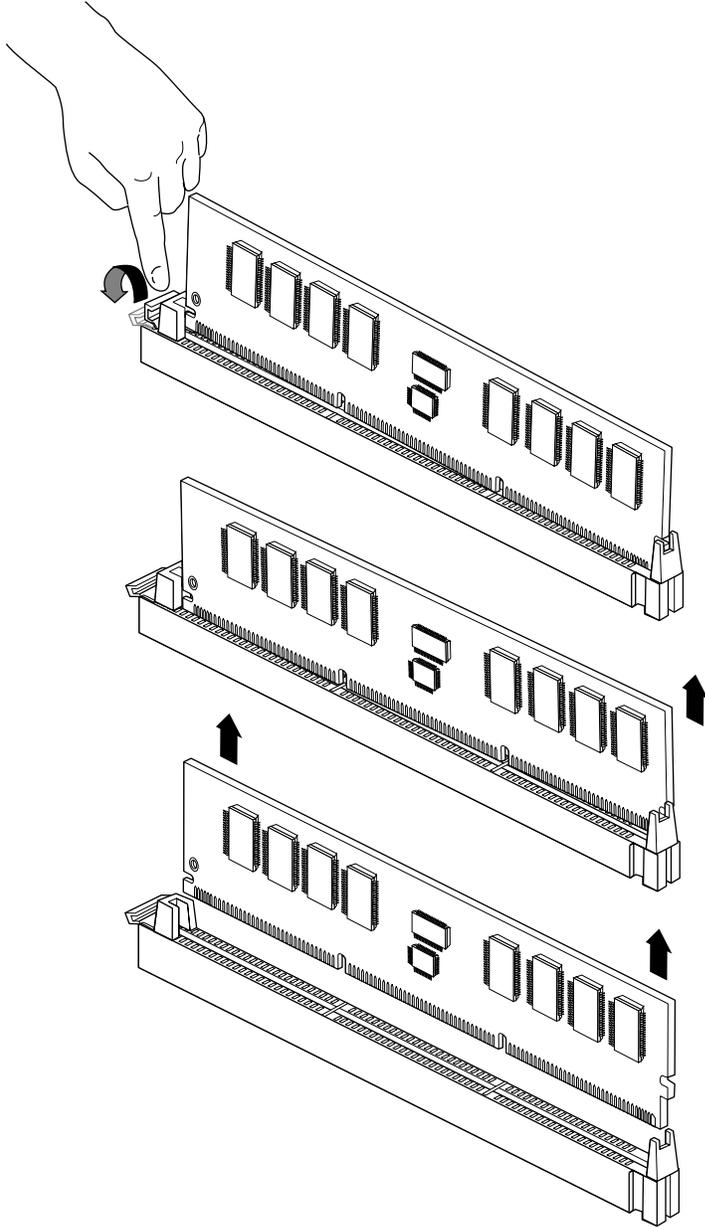

Figure 5-8 Removing DIMMs
- Figure 5-8 shows how to remove the DIMMs from their sockets.